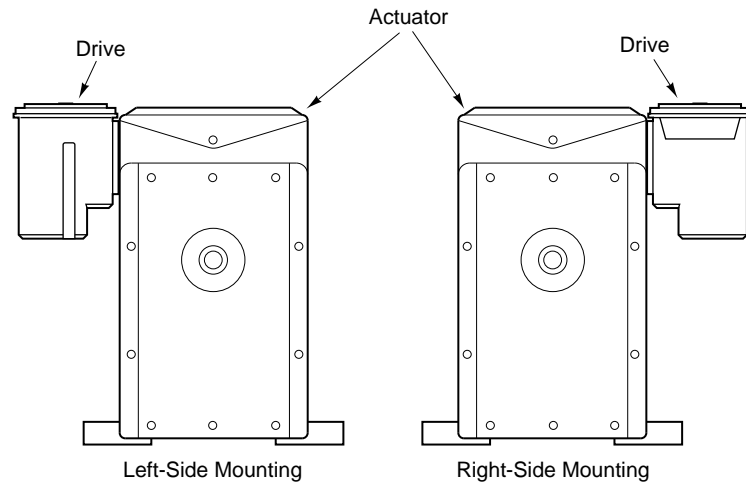
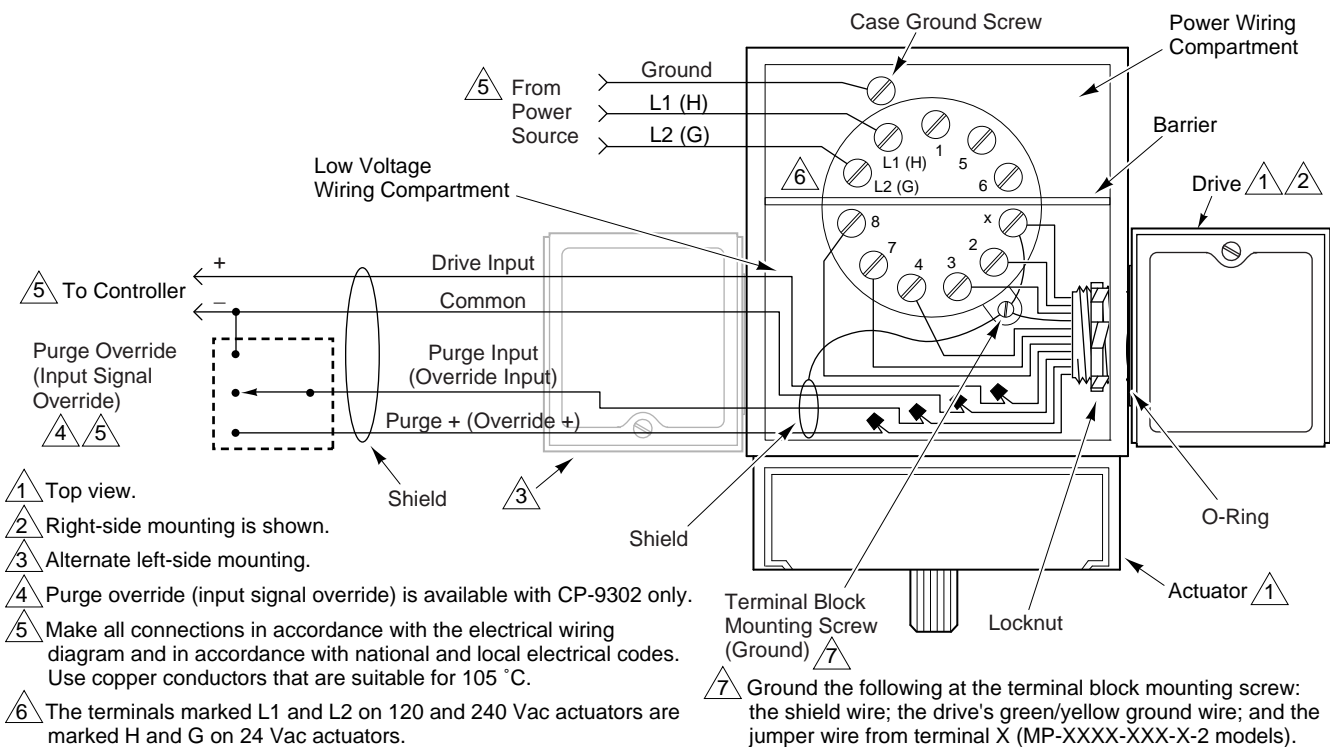

Figure-5 Mounting Position of Drive on Actuator.
Figure-6 Actuator/Drive Wiring and Mounting Arrangement.
2. Determine on which side of the actuator the drive is to be mounted (Figure-5, Figure-6, and Figure-10). Remove the knockout on that side, adjacent to the low voltage wiring compartment.
3. Temporarily remove the locknut from the drive. Verify that the O-ring (Figure-6 and Figure-10) is fully seated on the drive's casing, and insert the drive's 1/2" conduit connector into the opening from which the knockout was removed.
4. Secure the drive to the actuator with the locknut removed in step 3. Refer to Figure-6.